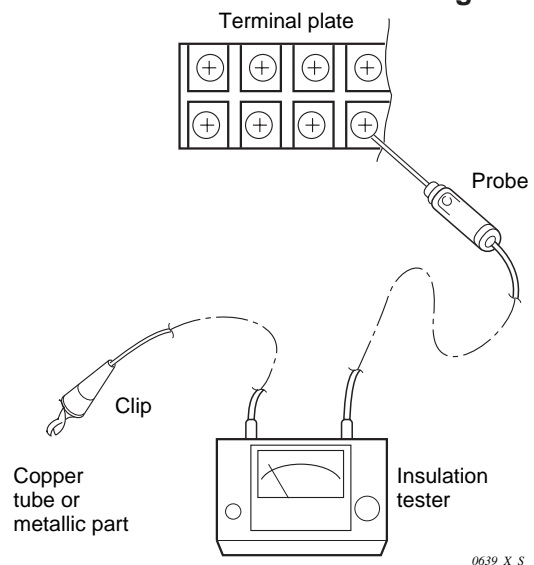

Fig. 26
Clamp an aluminum plate fin or copper tube with the lead clip of the insulation resistance tester and measure the resistance by placing a probe on high voltage terminal on the terminal plate (Fig. 26)
Clamp a metallic part of the unit with the lead clip of the insulation resistance tester and measure the resistance by placing a probe on ① and then ② on the 8 or 6P terminal plate. (Fig. 26)
Clamp a metallic part of the unit with the lead clip of the insulation resistance tester and measure the resistance by placing a probe on ⑤ and then ⑥, and then ⑦ on the 8P terminal plate. (Fig. 26)